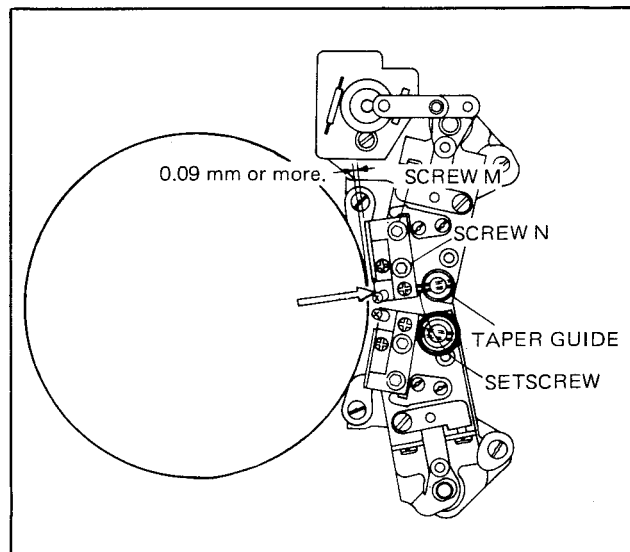

Fig. 3-87. Overlap C Adjustment
- Loosen screw N shown in Fig. 3-87 1/2 to 1 turn.